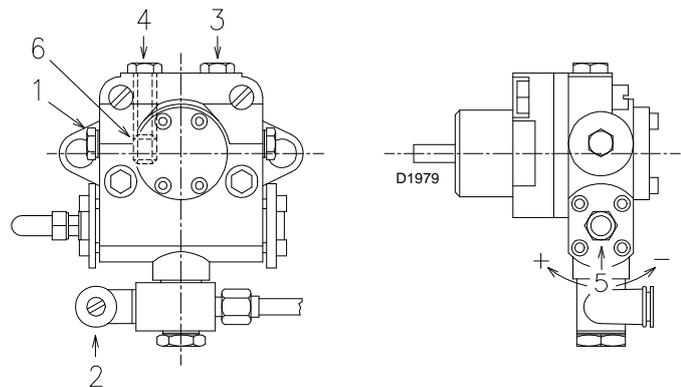

Fig. 19
In order to obtain single-pipe working it is necessary to unscrew the return hose, remove the by-pass screw 6)(Fig. 19) and then screw the plug 2).
For the priming pump loosen the screw 3)(Fig. 19) in order to bleed off the air contained in the suction line and wait until the fuel flows out.
The pumps are equipped with a by-pass that connects return line and suction line. The pumps are installed on the burner with the by-pass closed by screw 6)(Fig. 19).
Key (Fig. 19)
- For self-priming to take place, the screw 3)(Fig. 19) of the pump must be loosened in order to bleed off the air contained in the suction line.